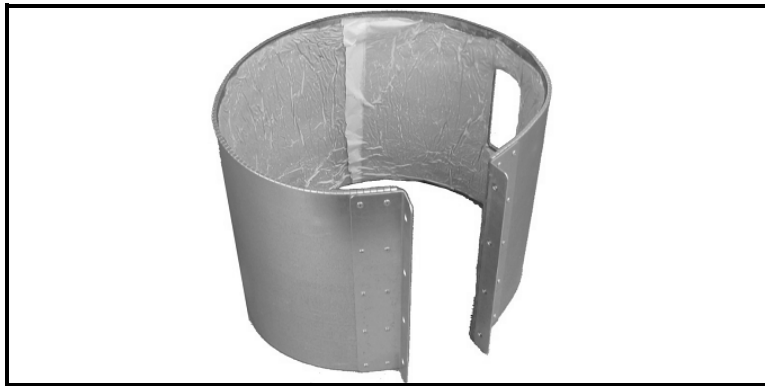

Figure 42: The PDJ Pipe Dampening Jacket
2. Remove the backing paper from the inside of the pipe dampening jacket (shown in Figure 42 below).